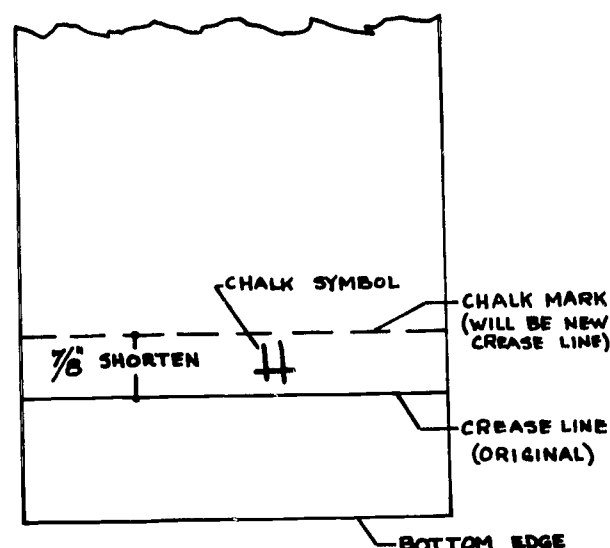

Figure 9.
4. To shorten a skirt, measure from the crease line of the old hem the amount to be shortened and make a chalk mark above the old crease line (see Figure 9). Continue this process at close intervals all around the skirt. Join the marks to make a continuous line (new crease line).